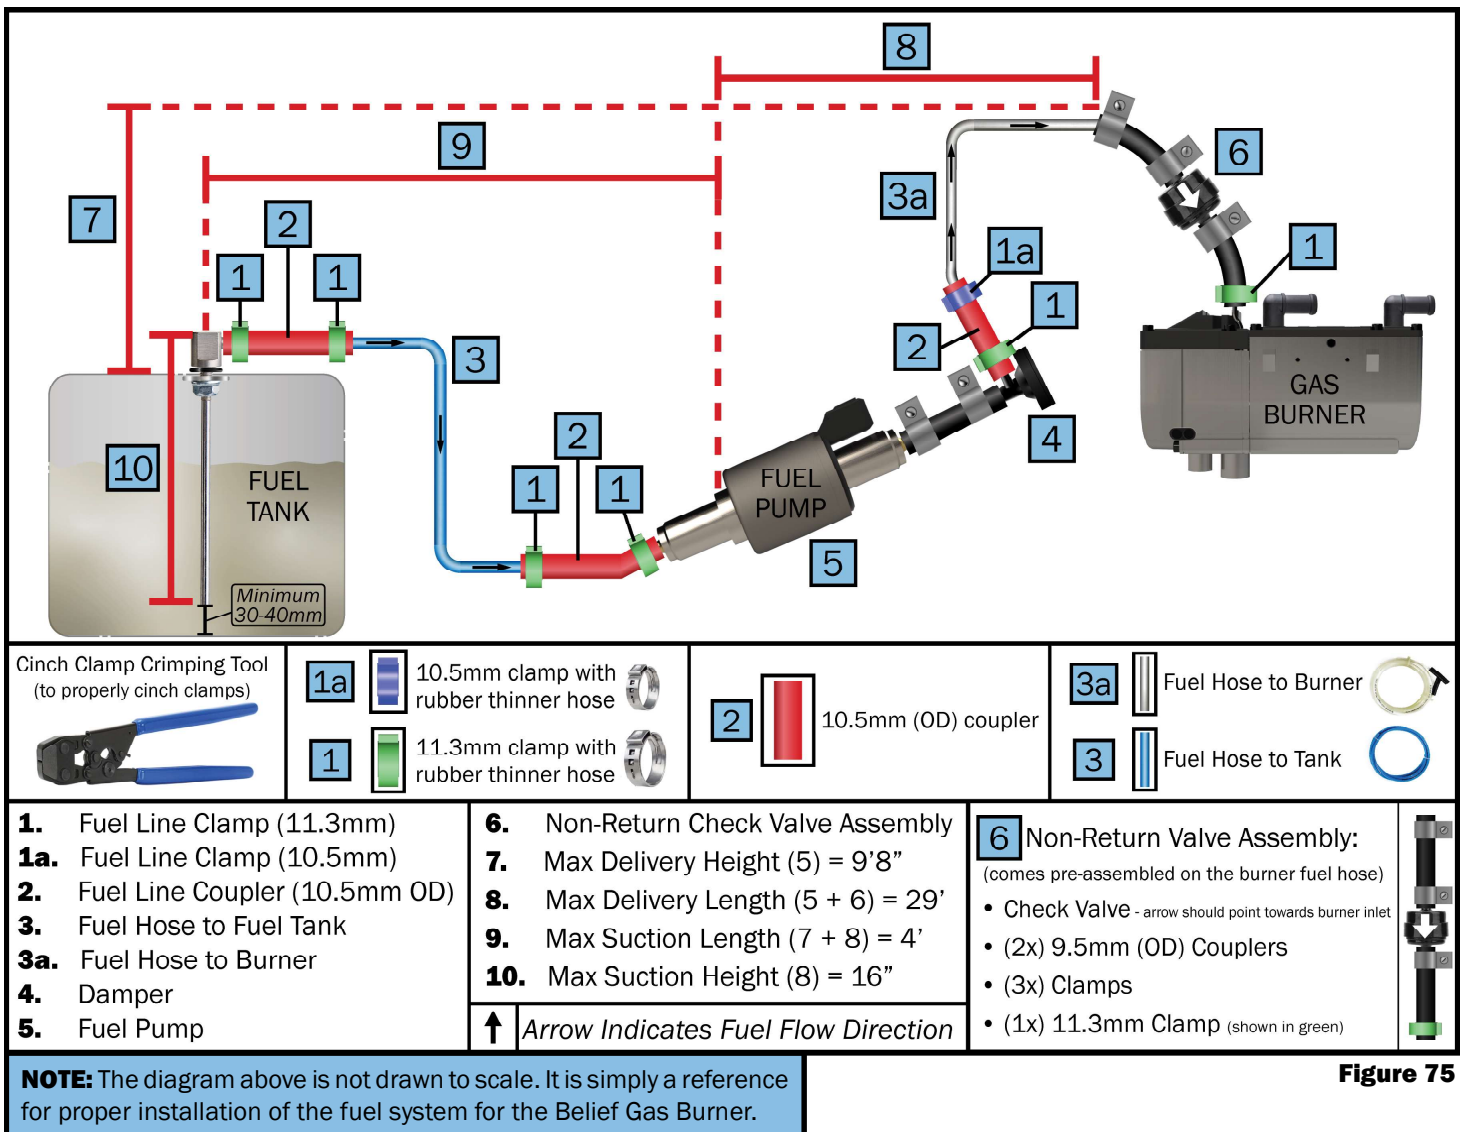

Figure 75
- Use the provided Ø4mm x 1mm (to heater - transparent) fuel hose and Ø2mm x 5mm (to fuel tank - blue) fuel line with the included couplers and clamps. (See Figure 75)
- The fuel hose should not be descending from the fuel pump to the burner - see Figure 75.